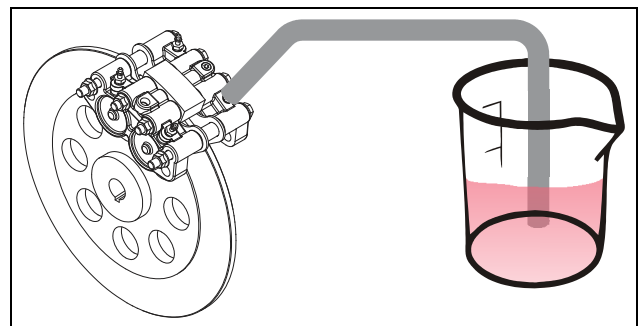

Figure 3-5: Brake Bleeding
7. Fit a length of tubing over the bleed screw and immerse the other end in the container of new brake fluid. Check that the tubing fits tightly over the bleeder fitting. See Figure 3-5.